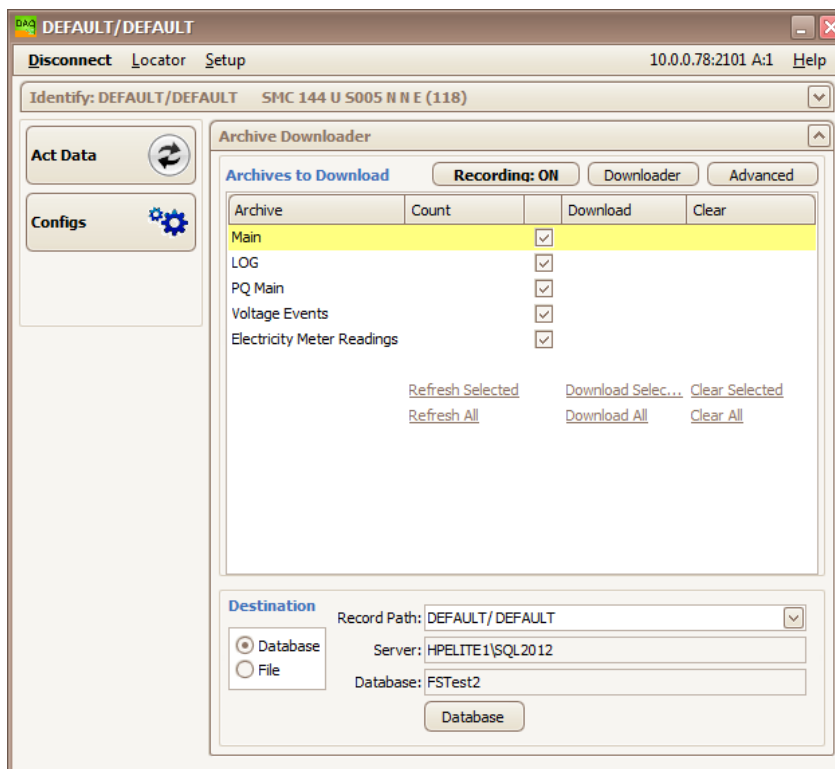

Figure 9: ENVIS.Daq application connected to the instrument.
5. Press the *Connect* button or the *ENTER* key. application will attempt to connect to the instrument. In case of successful connection it reads the configuration from the instrument and displays new window with summary information (figure 9).